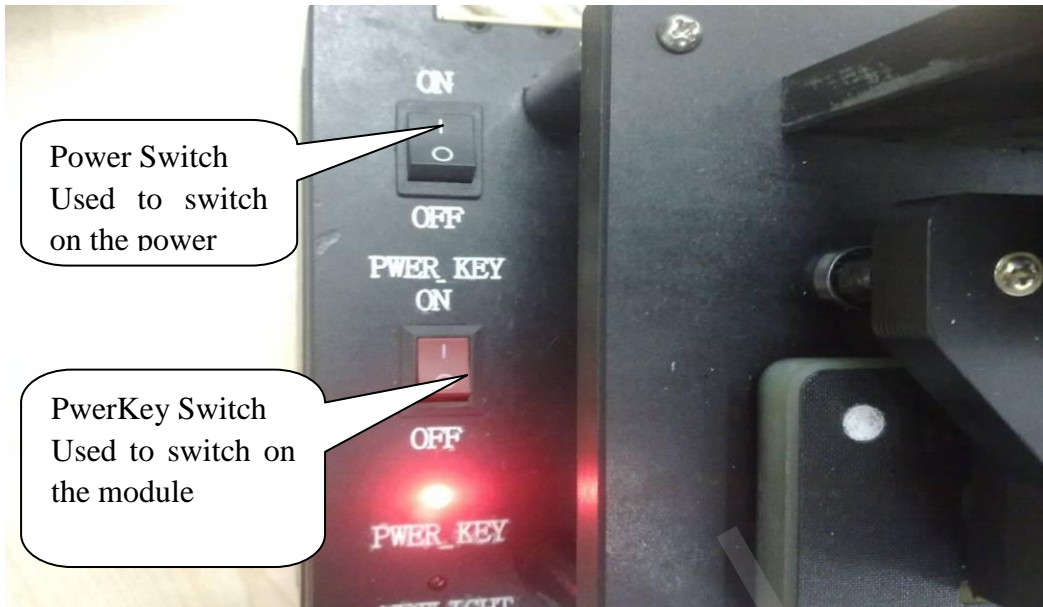

Figure 5: Turn on the power switch and the pwrkey switch
- g) Turn on the power switch and the pwrkey switch as Figure 5